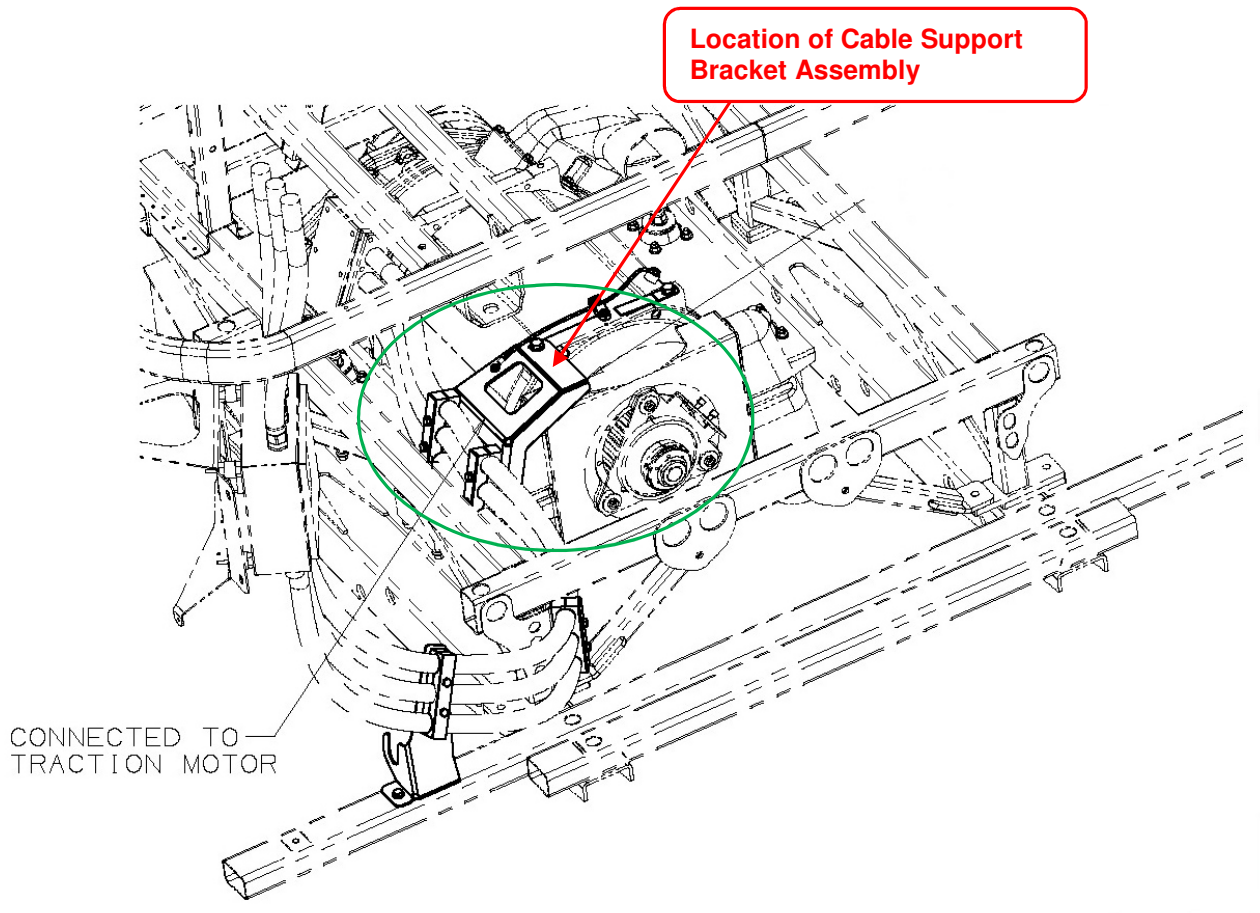

Figure 1: Location of Cable Support Bracket Assembly
2. Locate the Cable Support Bracket mounted to the traction motor assembly. Refer to Figure 1.